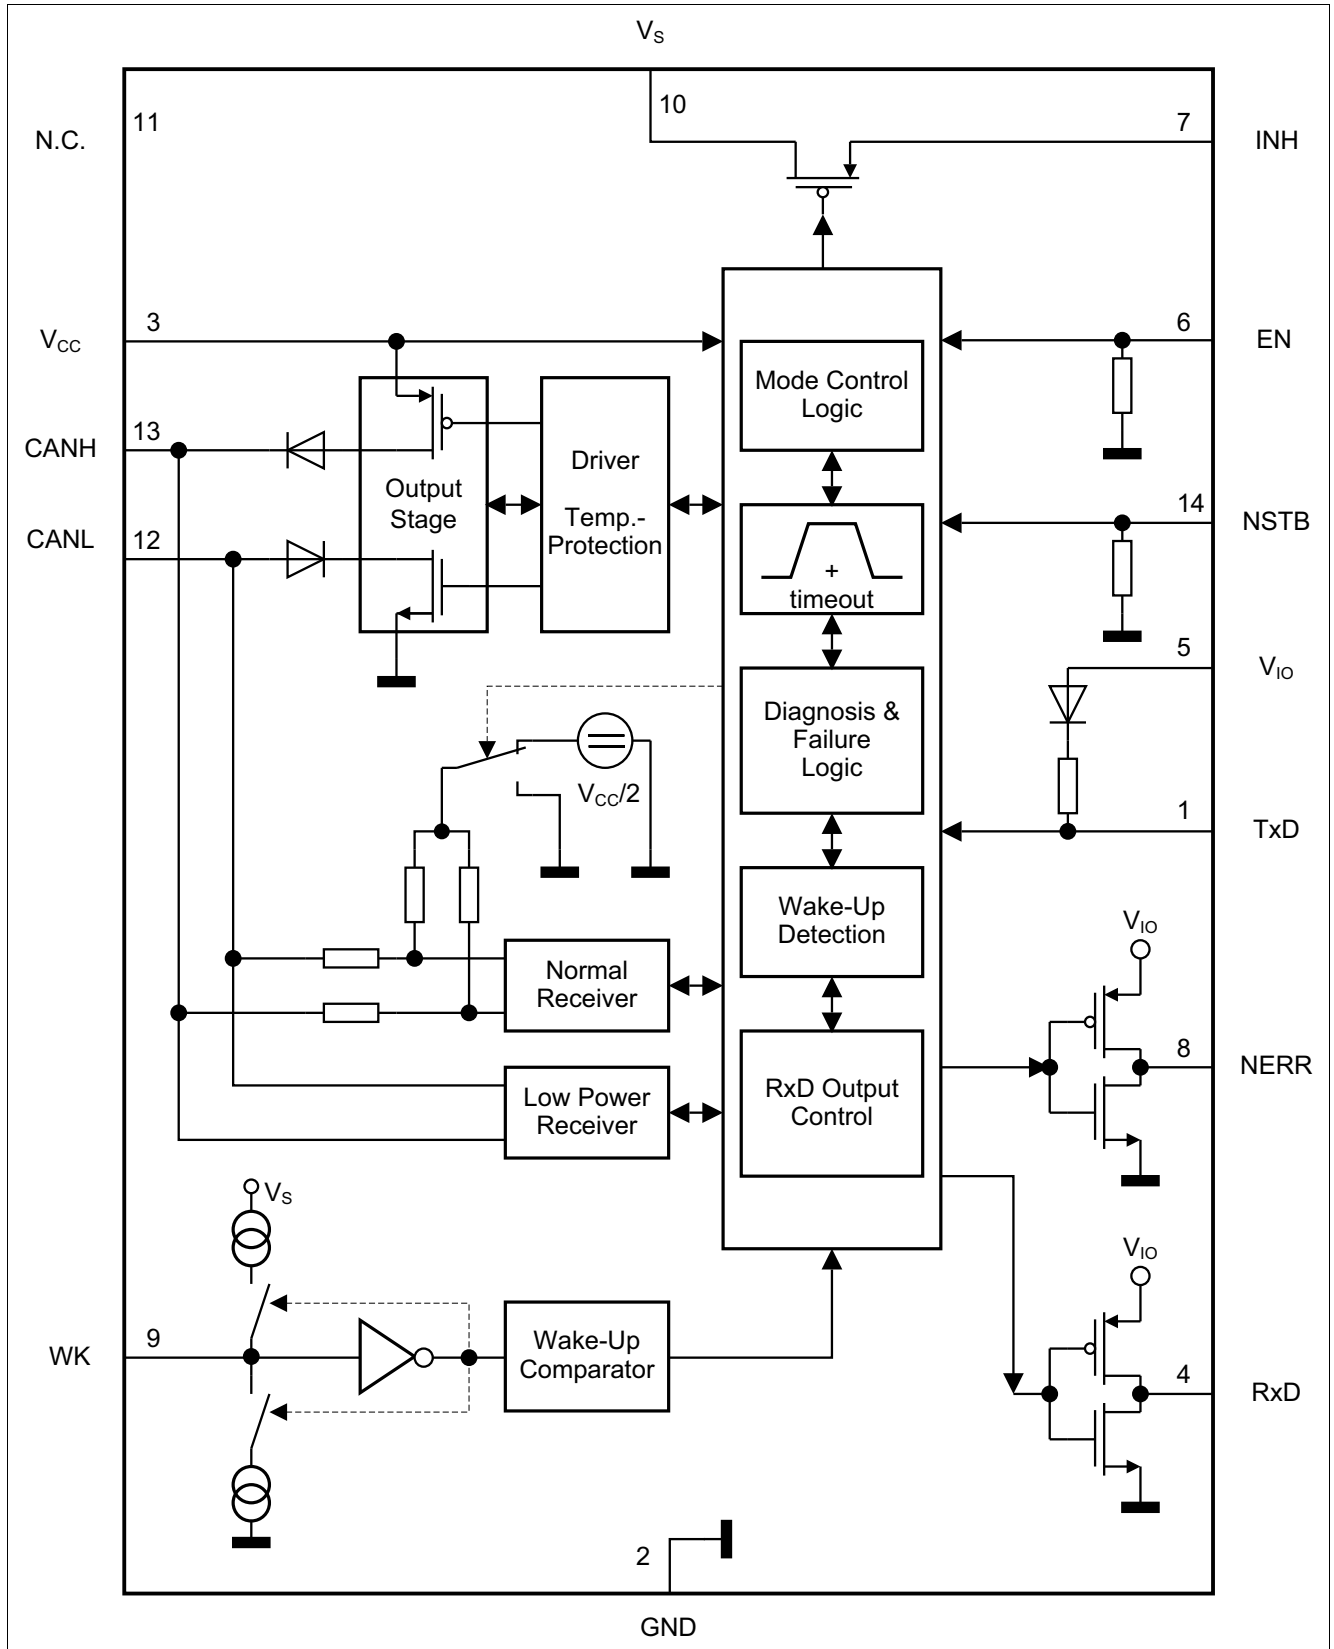
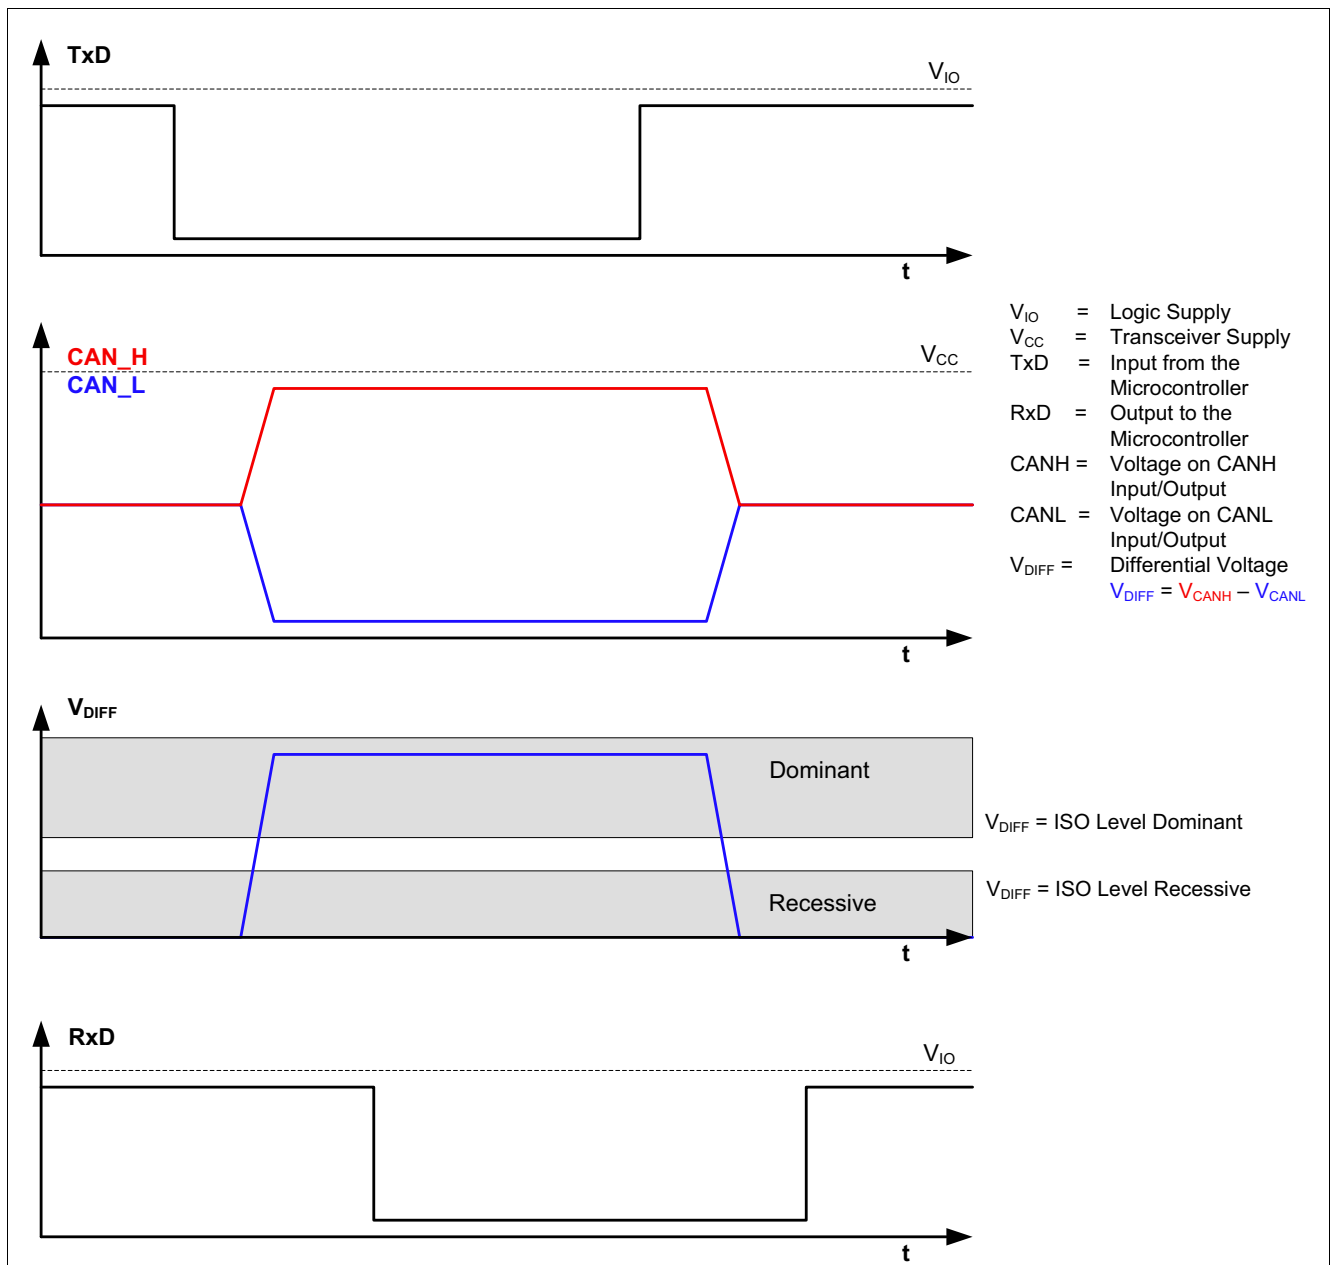

Figure 1 Block Diagram
Figure 3 High Speed CAN Bus Signals and Logic Signals
The TLE6251-3G is a High Speed CAN transceiver, operating as an interface between the CAN controller and the physical bus medium. A **H**igh **S**peed CAN network (abbreviated HS CAN) is a two wire differential network which allows data transmission rates up to 1 MBaud. Characteristic for a HS CAN network are the two CAN bus states “Dominant” and “Recessive” (see **Figure 3**).
The input TxD and the output RxD are connected to the microcontroller of the ECU. As shown in **Figure 1**, the HS CAN transceiver TLE6251-3G has a receive unit and a output stage, allowing the transceiver to send data to the bus medium and monitor the data from the bus medium at the same time. The HS CAN TLE6251-3G converts the serial data stream available on the transmit data input TxD into a differential output signal on CAN bus. The differential output signal is provided by the pins CANH and CANL. The receiver stage of the TLE6251-3G monitors the data on the CAN bus and converts them to a serial data stream on the RxD pin. A logical “Low” signal on the TxD pin creates a “Dominant” signal on the CAN bus, followed by a logical “Low” signal on the RxD pin (see **Figure 3**). The feature, broadcasting data to the CAN bus and listening to the data traffic on the CAN bus simultaneous is essential to support the bit to bit arbitration on CAN networks.
- Through the internal resistors R_1 (see Figure 1), the pins CANH and CANL are connected to GND.